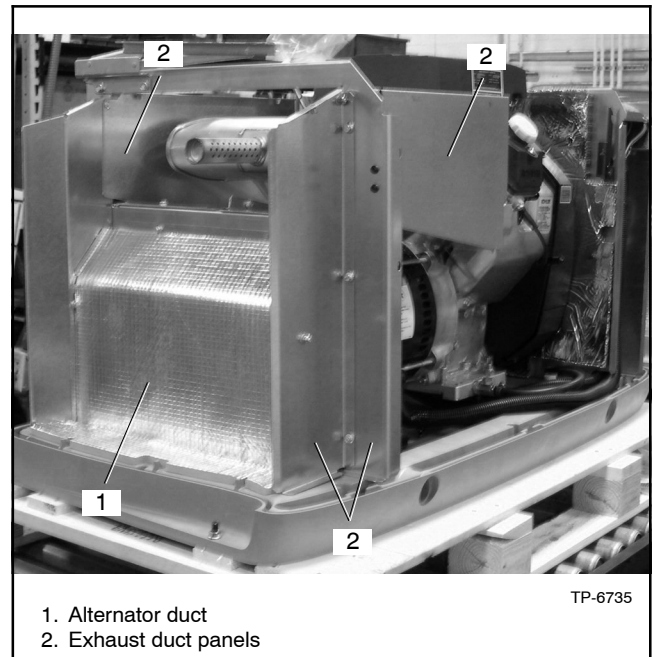

Figure 6-28 Alternator and Exhaust Ducts
9. Reinstall the alternator and exhaust duct panels shown in Figure 6-28.